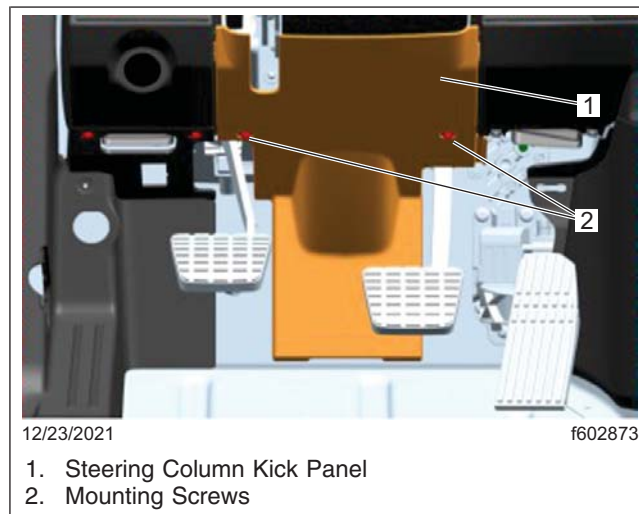

Fig. 2, Steering Column Kick Panel
4. Remove the dash cover steering column kick panel as shown in **Fig. 2**. For additional installation instructions, see **Group 46** in the *New Cascadia Workshop Manual*.